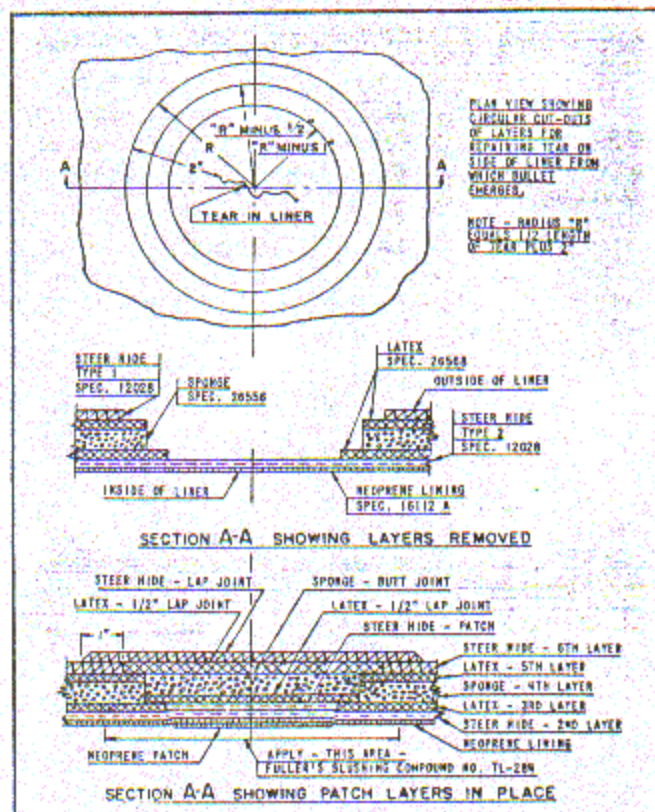

Fig. 77 - Repair of fuel cell on bullet exit side.
6. Cut patches of steerhide, latex sheet, sponge and split steerhide. These patches should be large enough to make a lap joint on each step of this repair, except in the case of the sponge patch where a butt joint should be used instead of a lap joint. (See Figure 77). Each lap is 1/2 inch except the outer layer of steerhide which should lap one inch. Use two coats of Bostick M-40 cement on each surface.